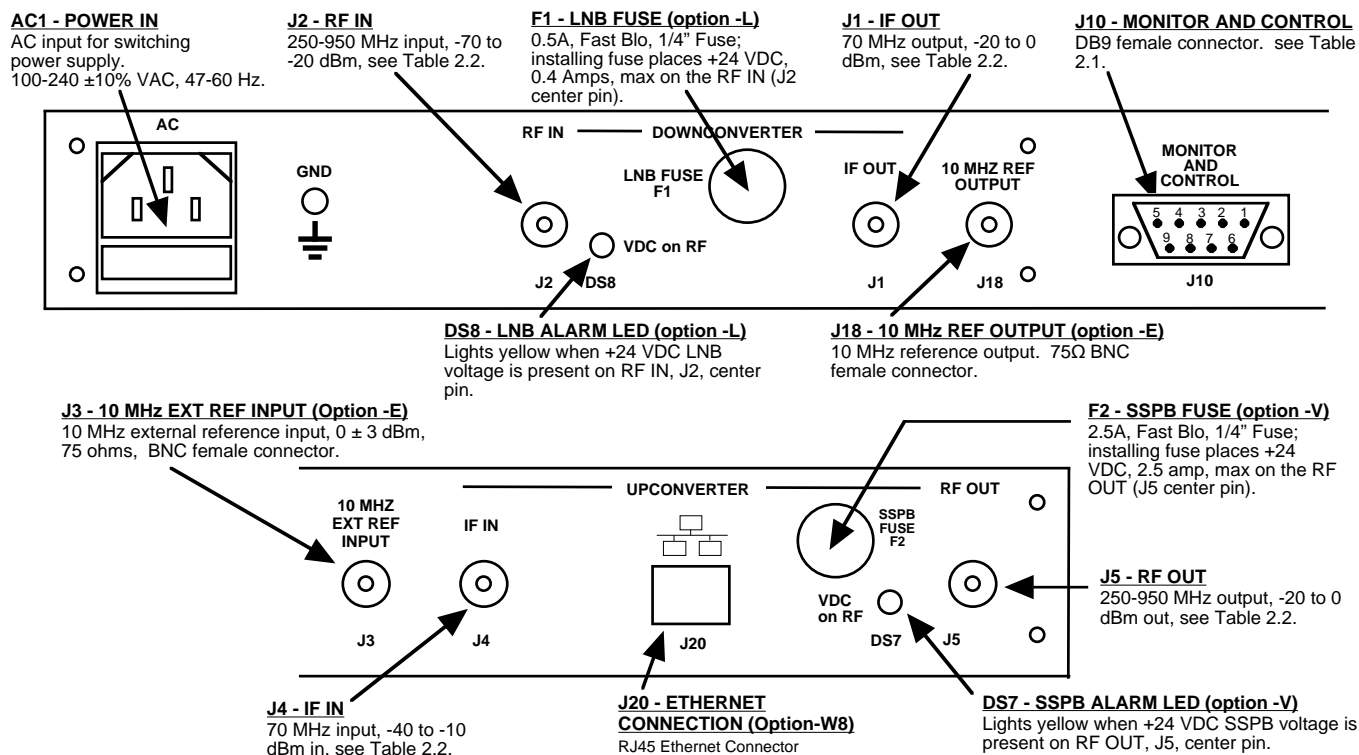

Figure 2.1 Model 2017-95 Rear Panel I/O's
2.2 Rear Panel Input/Output Signals and Control - Figure 2.1 shows the input and output connectors on the rear panel.
- 1.) Connect a -40 dBm to -10 dBm signal to IF In, J4 (Figure 2.1).
- 1.) Connect a -70 dBm to -20 dBm signal to RF In, J2 (Figure 2.1).